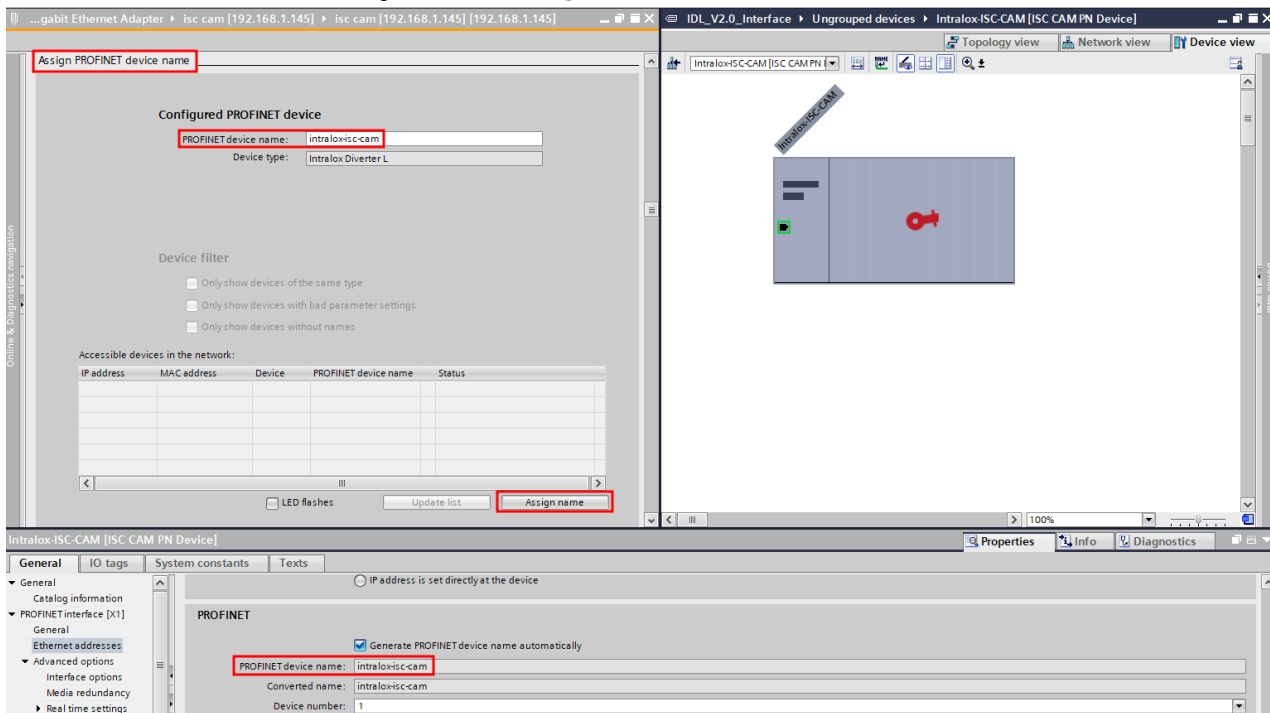

Figure 13: Configure Profinet Device Name for ISC CAM
24. Can also verify connected ISC CAM device by selecting the "LED flashes" check box to the left of "Assign name" in Figure 13.
28. Scroll down to "Assing PROFINET device name" and enter "PROFINET device name" which matches the project, the click "Assign Name," Figure 13.